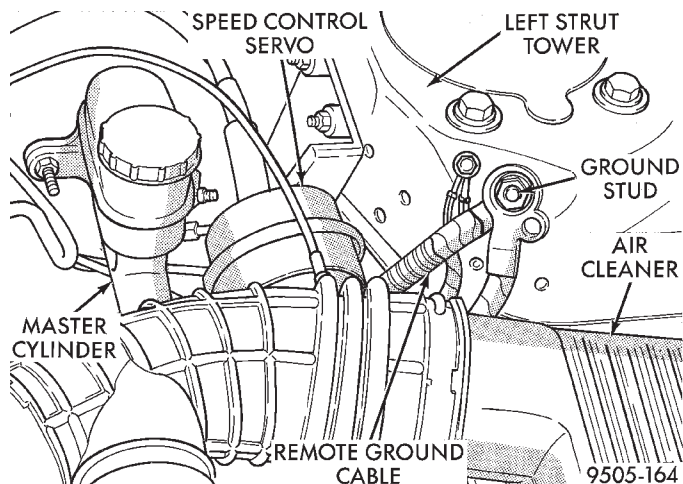

Fig. 101 Ground Cable Attachment To Strut Tower
(1) Remove the remote ground cable from the ground stud located on the left shock tower (Fig. 101).
(20) Install the remote ground cable (Fig. 101) on the ground stud located on the left strut tower (Fig. 101). Install and securely tighten the ground cable attaching nut.
(21) Check brake light switch for correct adjustment. If required, adjust stop lamp switch as necessary. See required procedure in the Service Adjustments Section in this group of the service manual.
(22) Road test vehicle to ensure proper operation of the vehicle's brake system.